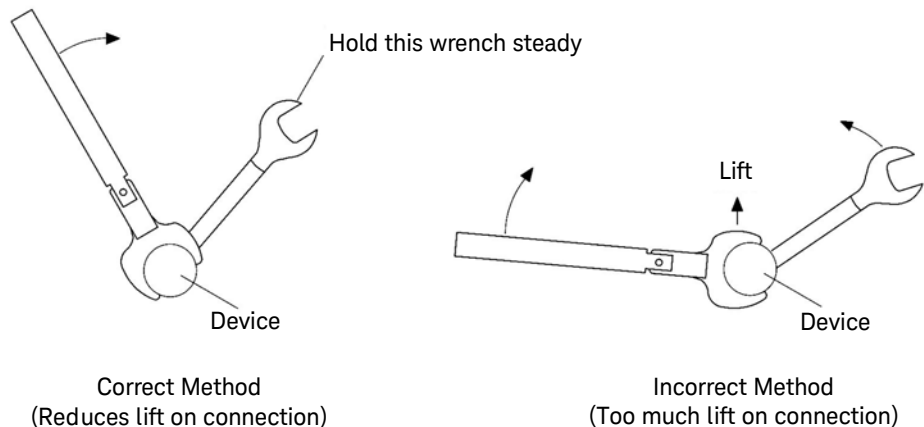

Figure 2-1 Wrench Positions
- 3 Position both wrenches within 90 degrees of each other before applying force. Refer to Figure 2-1. Wrenches opposing each other (greater than 90 degrees apart) will cause a lifting action which can misalign and stress the connections of the devices involved. This is especially true when several devices are connected together.